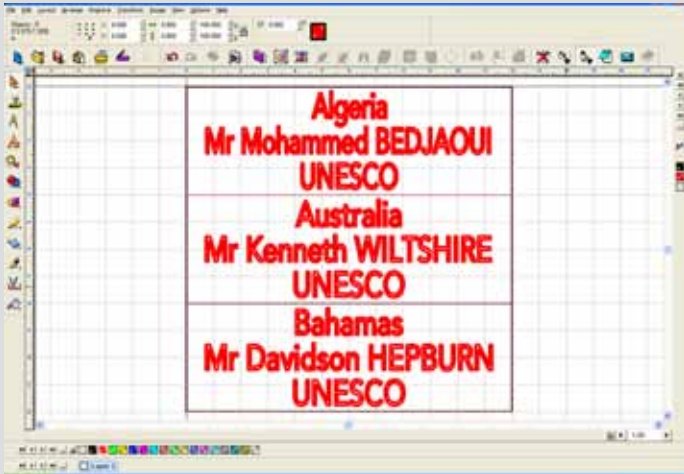

Fig 47 - After badges have been created, the view will return to the Vision Pro workspace, where text substitution for each badge has occurred.
1. When the badges have been completed, the workspace will display the first page of badges. (Fig. 47)